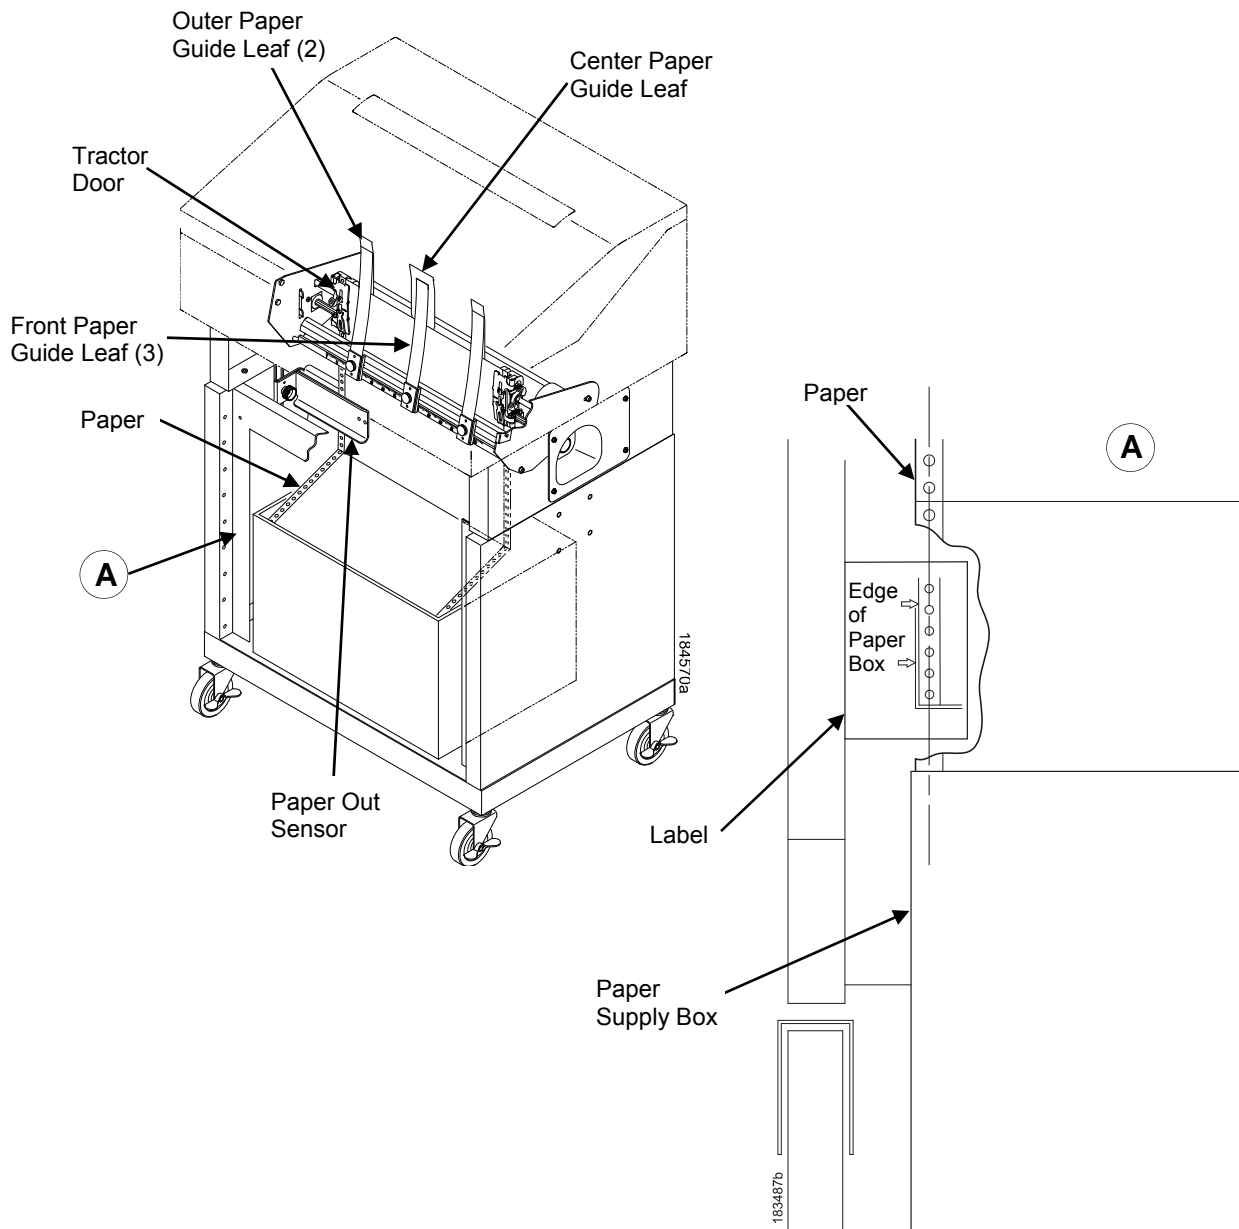
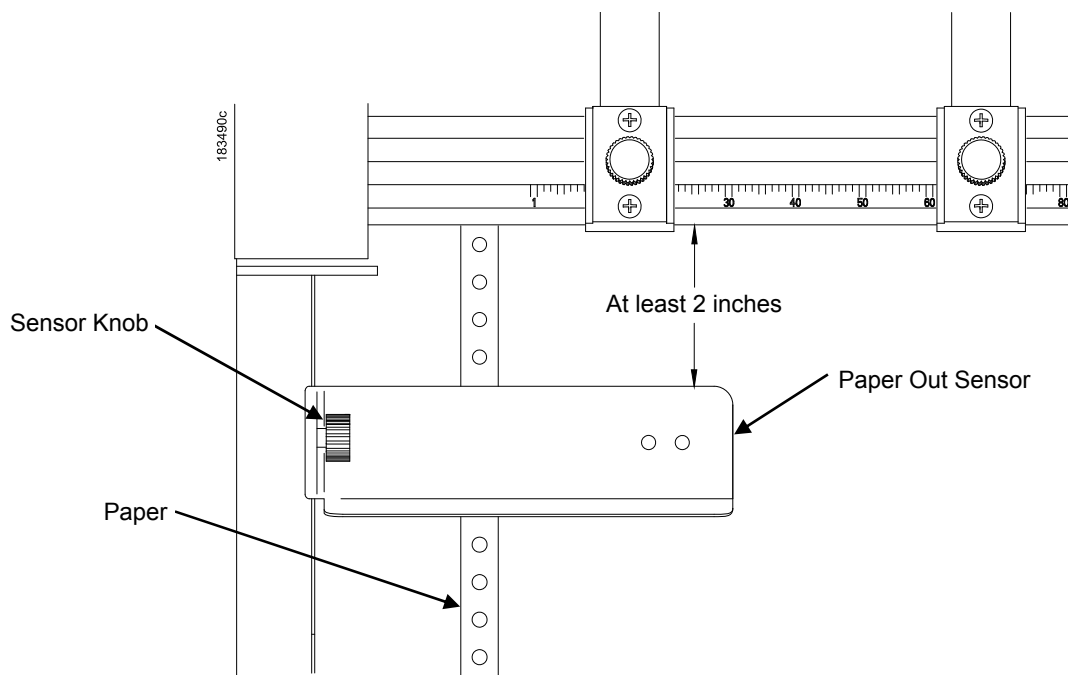

Figure 47 Loading Paper onto the Printer
Figure 50 The Paper Out Sensor
1. Align the paper supply box with the label on the left side of the floor. (See Figure 47 on page 300.)
The paper out sensor indicates when the printer runs out of paper. (The sensor does not work with black backed forms.) Unlike the standard pedestal printer, the ZT printer requires you to load the paper through the paper out sensor slot (Figure 47 and Figure 50). Correct positioning of the paper out sensor ensures that the last form the printer prints will be properly presented to the tear bar. To position the paper out sensor, do the following: